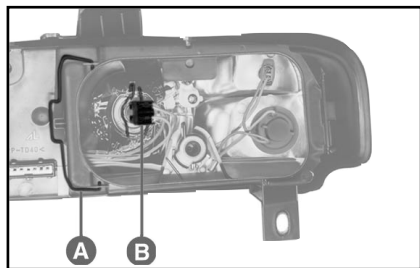

fig. 13
- 1) Remove the spring **A**-fig. 13 and remove the plastic protective cover.
- 2) Remove the electrical connector **B**-fig. 13.